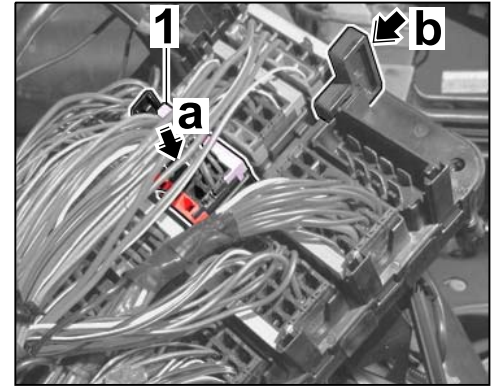

Figure 18
- 3.3.5 Connect connector K ⇒ *Figure 18-1-* to the relay/fuse carrier ⇒ *Figure 18-a-*.
Close the locking mechanism ⇒ *Figure 18-b-*.